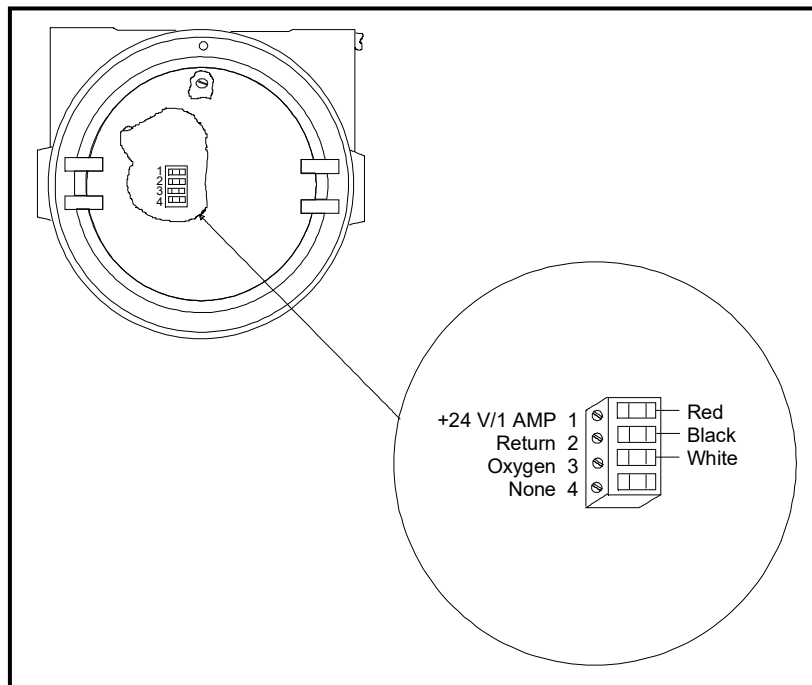

Figure 6: Wiring Connections to TBI Block
2. Unplug TB1 on the TMO2-TC transmitter PC board (PCB) by carefully pulling it directly up without bending the pins attached to the PCB. See Figure 6 on page 11.